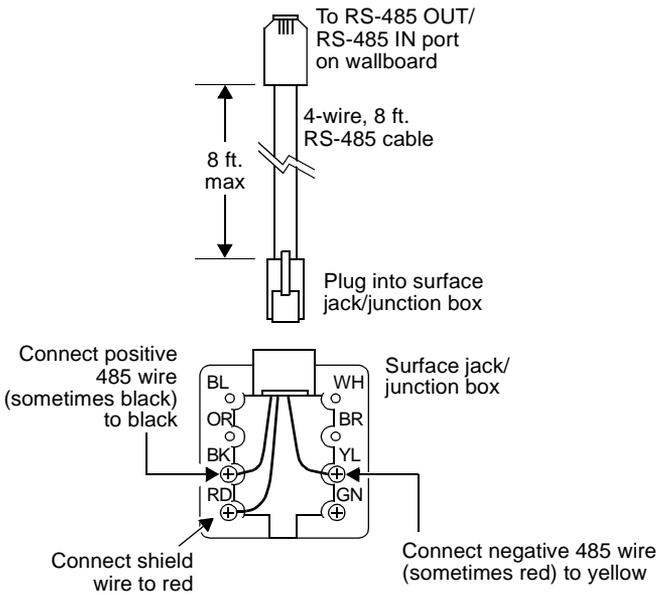

Figure 10. RS-485 Network Connection Using Modular Jacks
2. Connect one end of the RS-485 cable to the RJ11 jack (the RS-485 port on the back of the converter box). Connect the other end of the RS-485 cable to a modular junction box supplied with the wallboard in the following manner: (See Figure 10.)